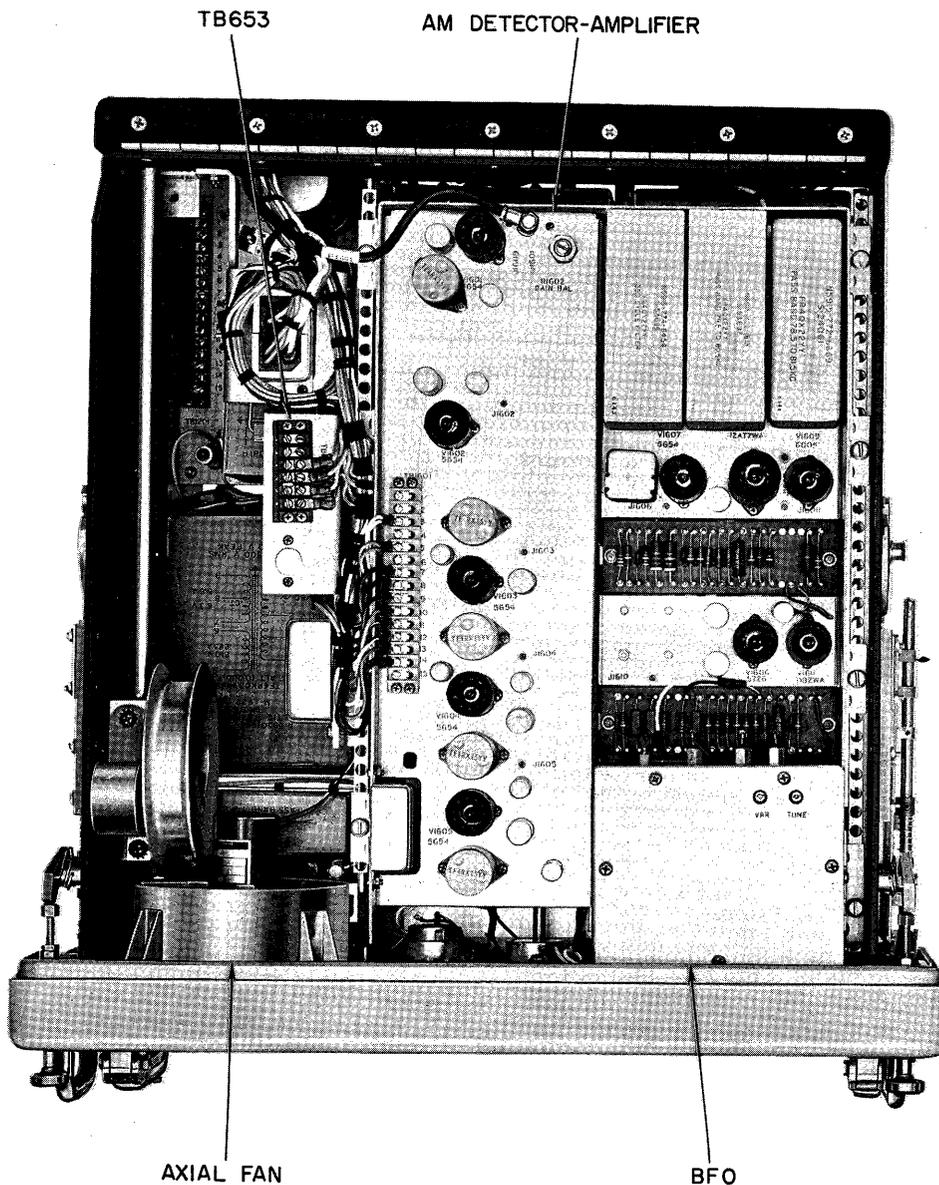

Figure 6-10. Demodulator Drawer, Upper Deck, Top View
(1) GENERAL.—This section includes supplementary information on removal and replacement of the receiver's INTERNAL STANDARD ADJUSTMENT control, INT. STD. LOG counter (figure 5-55) air filter, located on the front cover on top of the converter unit, and ventilating axial fan (figure 6-10). Information is also provided on lubrication of certain items.
(2) INTERNAL STANDARD ADJUSTMENT CONTROL AND INT. STD. LOG COUNTER.